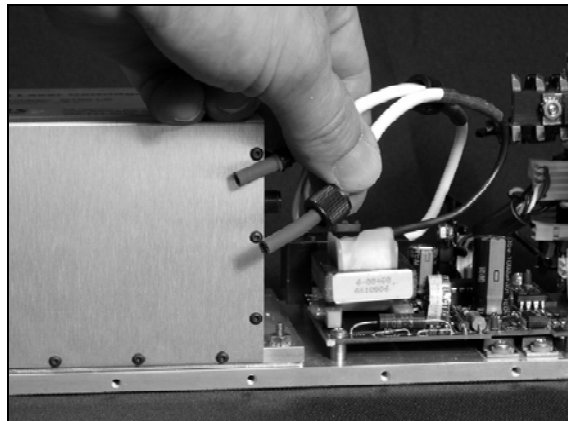

Figure 19. Disconnect high voltage connectors to the laser cartridge.
3. Disconnect the trigger and high voltage connectors on the laser cartridge, as shown in Figure 19.